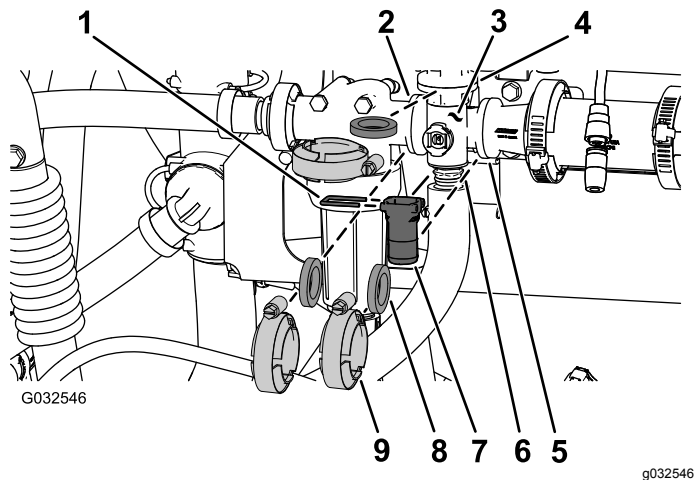

Figure 102
1. Remove the clamps, gaskets, quick connect, and quick-connect pin that secure the manifold for the agitation valve to the agitation-bypass valve, pressure-filter head, reducer coupling, and adapter fitting (agitation-throttle valve) as shown in Figure 102.